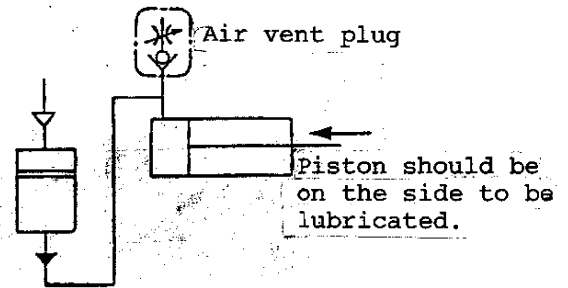

Fig. 4
- (1) Always mount converter unit and converter vertically.
- (2) Mount converter unit and converter at the places where the lower limit of fluid surface in converter should be higher than the upper limit of fluid in actuator. (Provide a vent plug on the top of fluid part in actuator if it should not. See Fig. 4.)
- (B) If the converter is installed lower position than the cylinder (Fig. 4.):